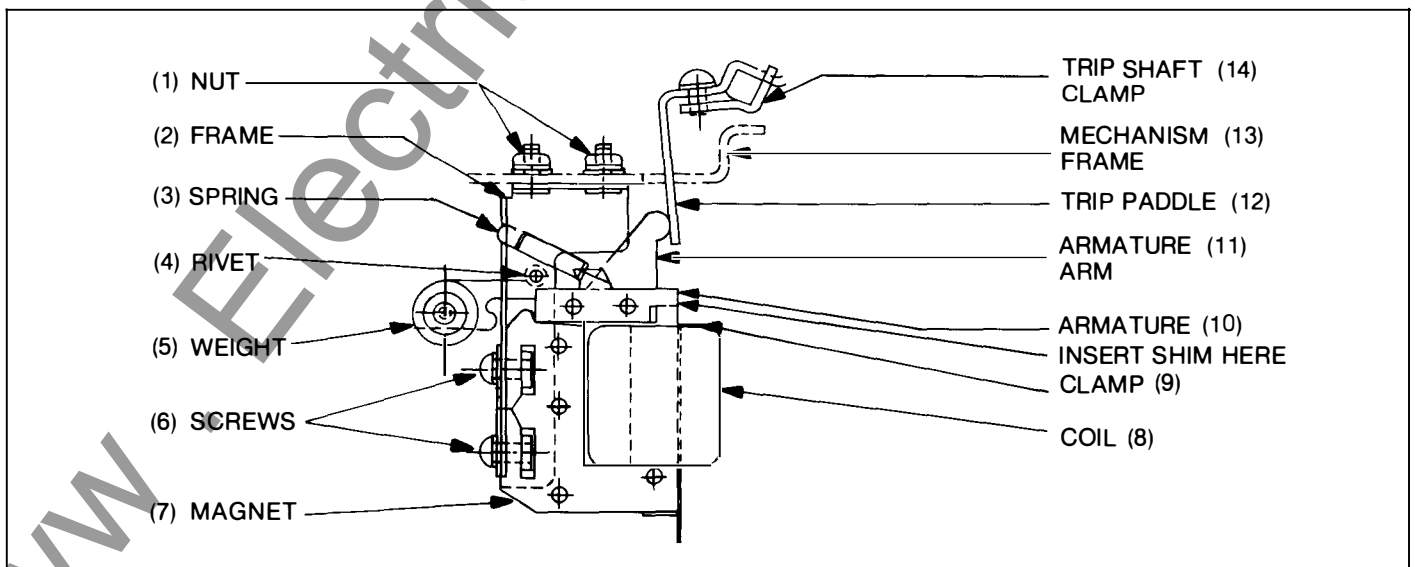

Fig. 11. Shunt trip device
Shunt Trip Device (Fig. 11)
The shunt trip device typically is mounted underneath the horizontal cross frame member, just to the left of the front escutcheon. It is composed of a magnet (7), Fig. 11, coil (8) and armature (10). The armature has an extended arm or striker (11) which bears against the trip paddle (12) on the trip shaft (14) when the coil (8) is energized. This displaces the trip latch in the
The entire shunt trip device may be dismantled by disconnecting the coil leads and removing nuts (1), Fig. 11.
The only adjustment required on the shunt trip device is that which ensures positively that the breaker will trip when the device is activated. To be sure of this, armature arm (11), Fig. 11, must travel from 1/32 to 1/16 inch beyond the point at which the breaker trips. A good method of checking this is to insert a 1/32-inch shim between the magnet (7) and armature (10) and with the breaker closed, push down on the arm (11), closing the armature against the magnet. If the breaker trips, there is sufficient over-travel. If adjustment is necessary, trip paddle (12), Fig. 11, may be formed towards or away from the armature arm (11). Assure a minimum clearance of 1/16 inch between the trip paddle and breaker frame with the mechanism in the RESET position.